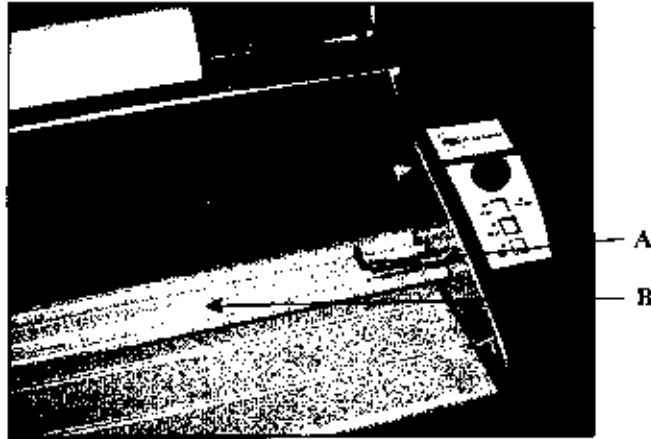

Fig. 6-4. Print Clamp and Feed Table
A. Release Latch (Figure 6-4)
B. Print Clamp (Figure 6-4)